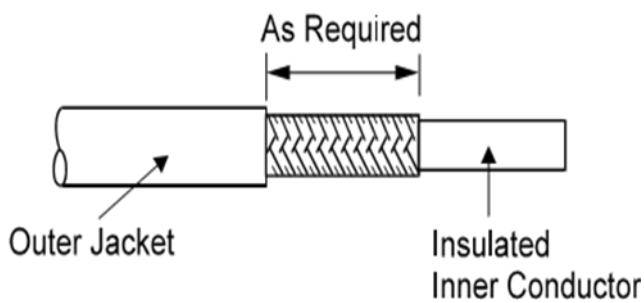

Figure 3-7 *Removal of Excess Braiding*
21. Using the knife, repeat step two removing the insulation surrounding the inner conductor. The finished cable will appear as depicted in Figure 3-7